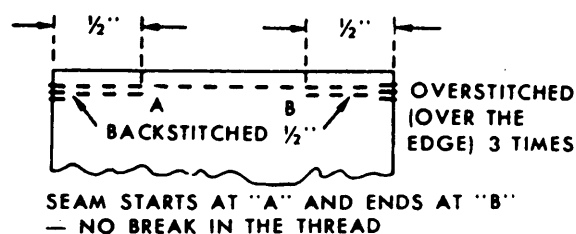

Figure 10-32.—Properly anchored machine seam.
**SECURITY.** The security of a seam or stitching depends chiefly on the stitch type and its ability to resist unraveling. The stitch must be well set in the material to prevent snagging, which can cause thread breakage and unravel some types of stitches. Seam “run offs” weaken a seam. All seam ends should be backstitched or anchored (backstitched and overstitched) to prevent the seams from unraveling, as illustrated in figure 10-32.